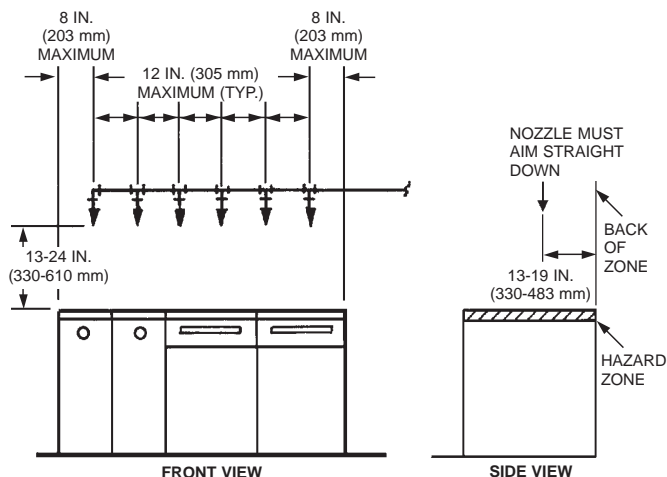

FIGURE 5c
1. All overlapping low proximity appliance nozzles must be the “DL” nozzle, Part No. 426093, and must be located at the same height above the hazard and in a straight line from right to left. See Figure 5c.
2. The overlapping low proximity appliance nozzle must be located 13 in. to 24 in. (330 to 610 mm) above the top surface of the protected appliances. See Figure 5c.
3. The overlapping low proximity appliance nozzle must be located 13 in. to 19 in. (330 to 483 mm) from the back of the hazard zone, and aimed straight down. Exception: When protecting ranges, if the nozzle height is lower than 17 in. (432 mm), the hazard cooking surface must not exceed 15 in. (381 mm) to the front or back of the nozzle centerline. See Figure 5c.
4. For each group of protected appliances, the overlapping low proximity appliance nozzles must be located from right to left so that each end nozzle is located a maximum of 8 in. (203 mm) inside the outside edge of the cooking hazard of each end appliance, and the inside nozzles must be located between the two end nozzles at a maximum spacing of 12 in. (305 mm). See Figure 5c.